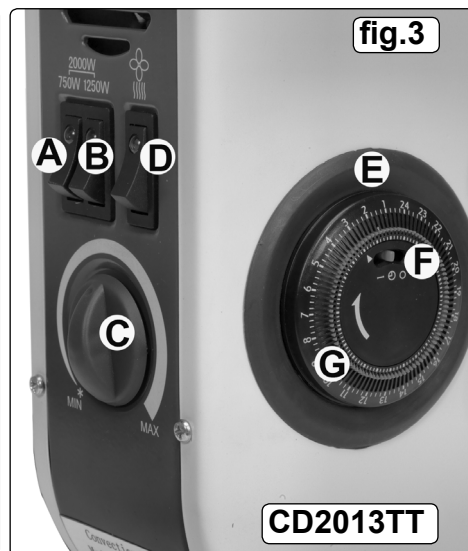

fig.3
- 4.7. **Turbo fan feature (CD2013TT only, fig.3).**
- 4.8. **Timer function (CD2013TT only, fig.3).**
- 4.8.1. To activate timer function, turn the outer ring (fig.3.E) to the correct time. This will need to be repeated every time that the heater is reconnected to the power supply.
- 4.8.2. The function selector switch (fig.3.F) has three positions: Left.....Heater on permanently.
- 4.8.3. To select the time during which the heater is active, move the timer pins (fig.3.G.) outwards for the period required . Each pin is equal to 15minutes.